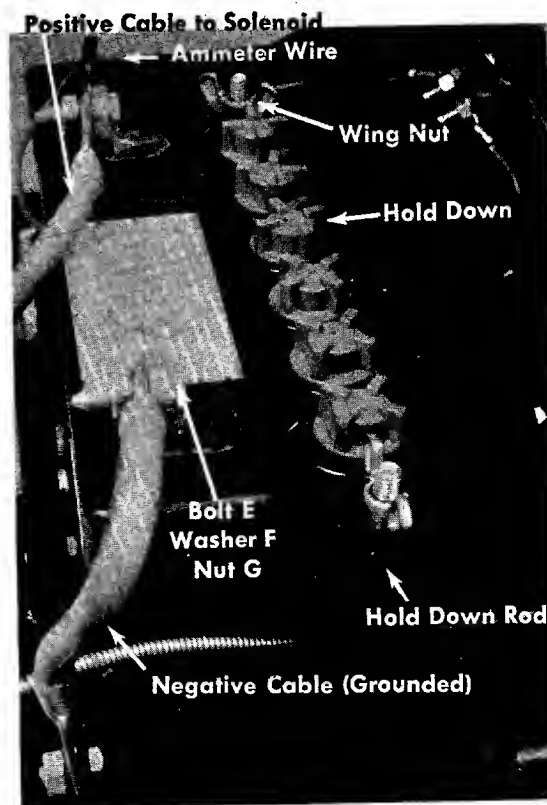

FIGURE 4. INSTALLING THE BATTERY
- B. Place the battery with the terminals to the FRONT in the battery case. See figure 4.